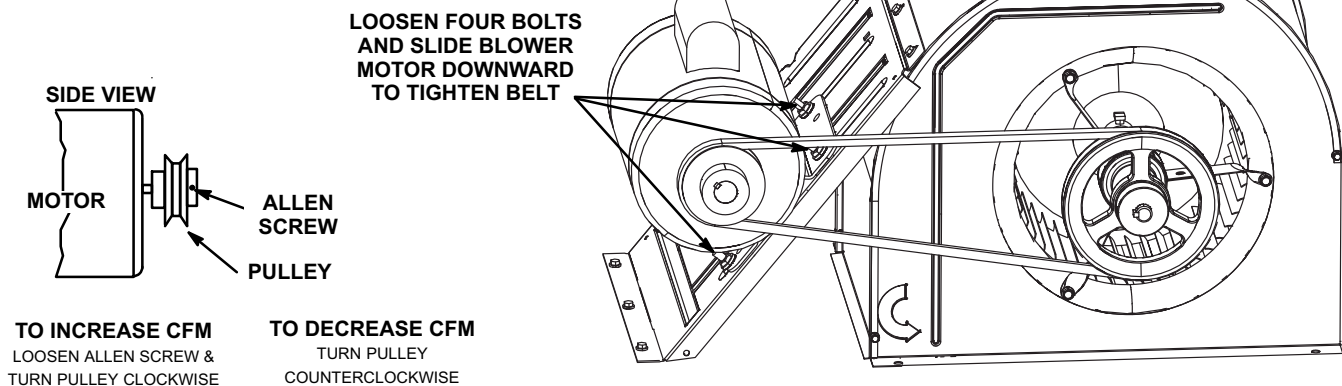

FIGURE 11
- 5- The blower RPM can be adjusted at the motor pulley. Loosen Allen screw and turn adjustable pulley clockwise to increase CFM. Turn counterclockwise to decrease CFM. See figure 11. Do not exceed minimum and maximum number of pulley turns as shown in table 1.
- 1- Loosen four bolts securing motor base to mounting frame. See figure 11.